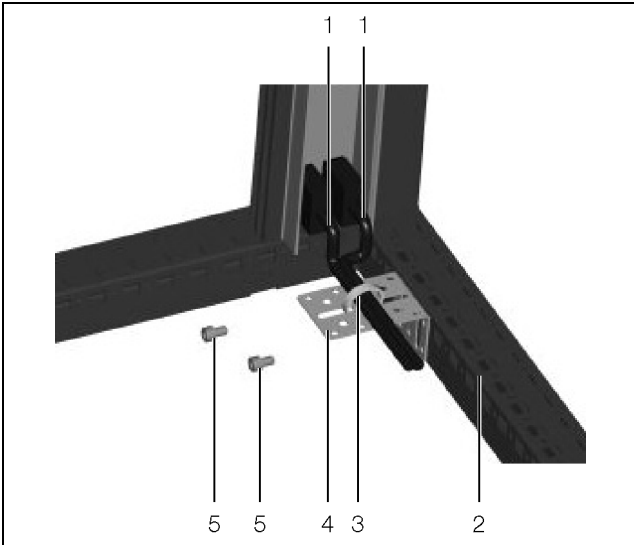

Fig. 6: Fitting the strain relief (alternative 1)
- Alternatively, secure the bracket (fig. 6, item 4) to the side base frame (fig. 6, item 2) from the side using the screws provided (fig. 6, item 5).